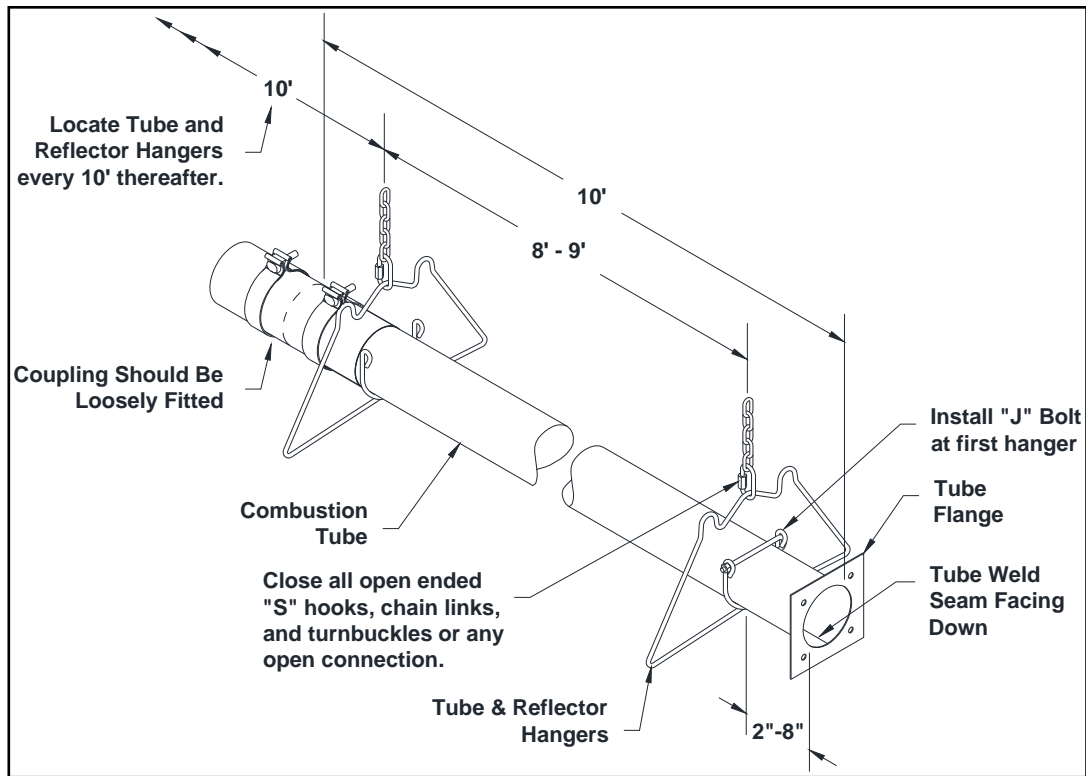

Figure 7: Installation of First section of Flanged Tube
- Place the first (*flanged, aluminized*) tube in the first two hangers (Figure 7). Be sure the flange is toward the intended burner location. The other end of the tube should have the first coupling already loosely fitted.
- Always use all the hangers supplied. As a rule the combustion tube (first tube) utilizes 2 hangers and thereafter 1 hanger per 10' section. **It is required that the first hanging point be 2" to 8" from the burner mounting flange, and tube weld seam must face down**, refer to Figure 7 for more details.